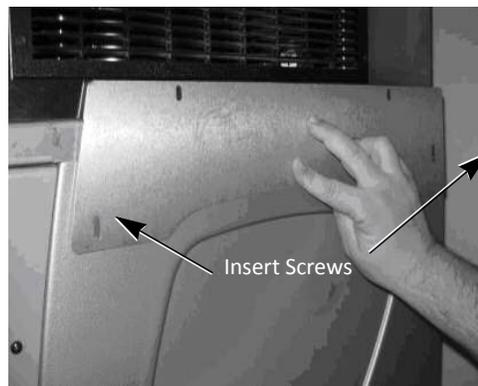

Figure 11.
- Place bracket as shown then re-install the black screws (see Figure 11.) that were removed in Step 1.